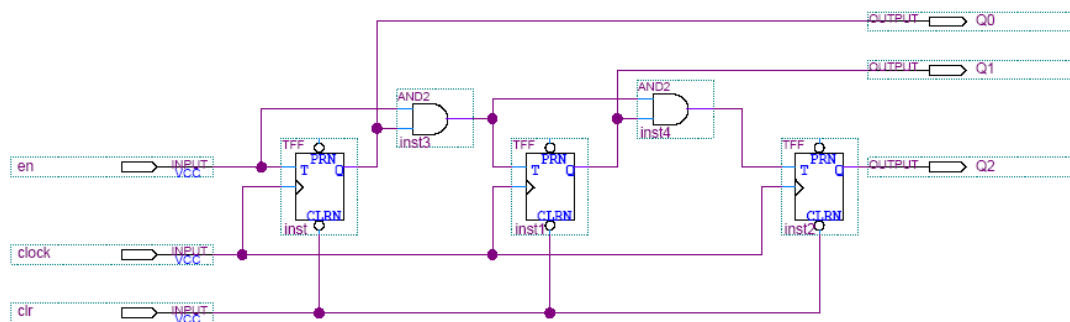
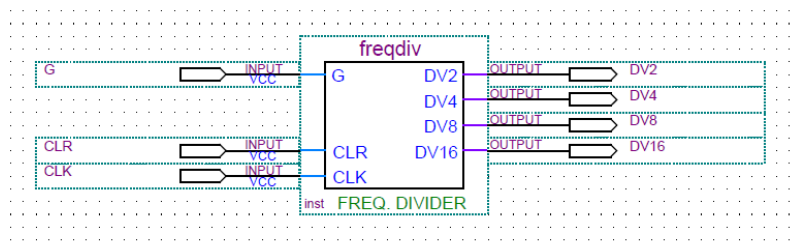

Figure 2
Figure 5
The input of each T flip-flop is set to 1 to produce a toggle at each cycle of the clock input. For each two toggles of the first cell, a toggle is produced in the second cell, so its output is at half the frequency of the first. The output of the third cell is 1/8 the clock frequency. The same device is useful as a counter. Figure 2 shows schematic design for three-bit frequency divider by using three T-type flip-flops.
1. Write a *VHDL* file or create a *BDF* file that defines a **8-bit counter (8-bit frequency divider)** by using the structure depicted in Figure 2 (bdf) or extension from Figure 3 (vhd1) or LPM freqdiv (Figure 5), and compile the circuit. What is the frequency relation between the clock and eight outputs from eight *T-type flip-flops*, respectively?